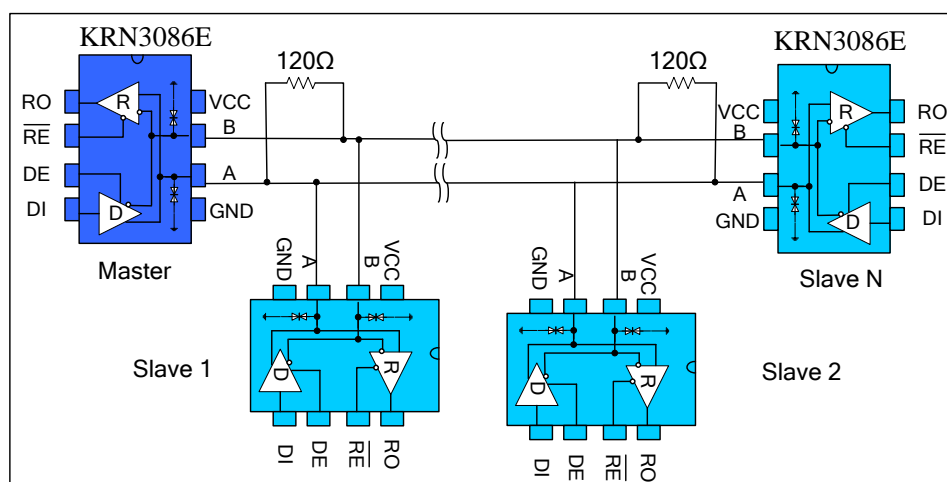

Figure 9 Bus type RS485 half-duplex communication network
4.1 Bus Networking: KRN3086E RS485 transceiver is designed for bidirectional data communication on multi-point bus transmission line. Figure 9 shows a typical network application circuit. These devices can also be used as linear repeaters with cables longer than 4000 feet. In order to reduce reflection, terminal matching should be carried out at both ends of the transmission line with its characteristic impedance, and the length of branch lines outside the main line should be as short as possible.